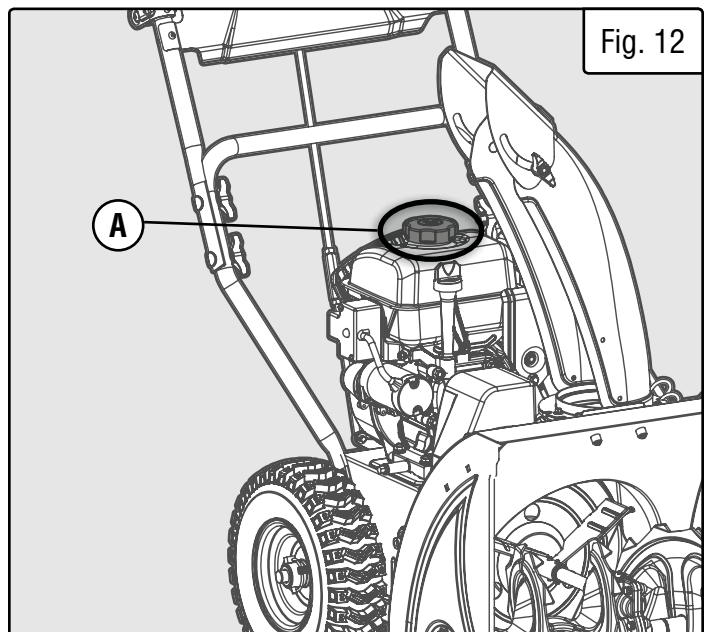

Fig. 12
STEP 2 - ADD/CHECK FUEL (FIG. 12)
3. Check that there is a sufficient level of gasoline in the fuel tank. Add fuel if necessary, see "Step 2 - Add/Check Fuel (Fig. 12)" on page 16.